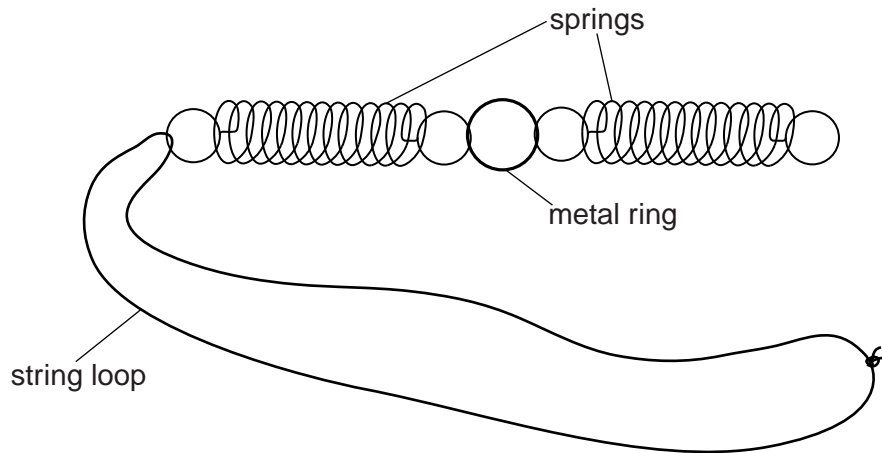

Fig. 1.1
- 1 Assemble the springs, string and metal ring as shown in Fig. 1.1.